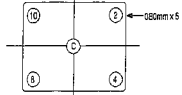

Fig. 2-1-2-5
(12) Turn over the direction of CPT axis direction magnetic field of the Earth's magnetic field and check it by the same C way as item (11). The positions of mislanding criteria with microscope should be 2, 4, 8 and 10. (Fig. 2-1-2-5)